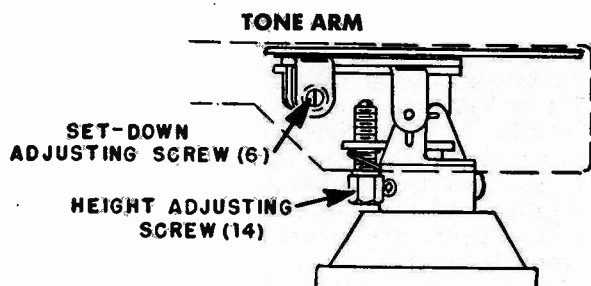

Figure 5. Set-Down and Height Adjustments.
Adjustment of the set-down point, is made by adjusting the set-down adjusting screw (6). See Figure 5. The tone arm will automatically set-
the distance between the needle and the changer pan with the changer out of change cycle. If the needle is more than  $\frac{1}{4}$ " above the pan, turn the lift adjustment screw (14, Figure 5) counterclockwise; if less, turn clockwise.